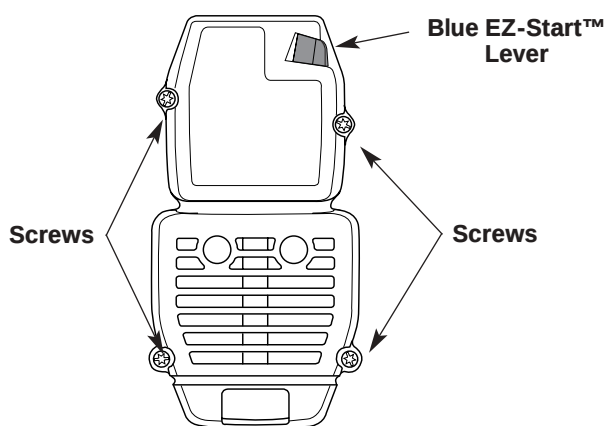

Fig. 33
1. Remove the four (4) screws securing the air filter/muffler cover (Fig. 33). Use a flat blade or T20 Torx bit screwdriver.
2. Insert the four (4) screws into the holes in the air filter/muffler cover (Fig. 33) and tighten. **Do not over tighten.**